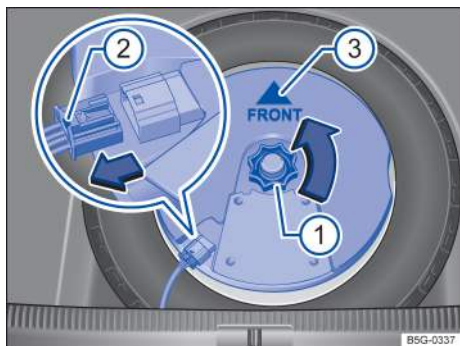

Fig. 140 Under the luggage compartment floor: Subwoofer (if equipped).
- Unscrew the handwheel → fig. 140 ① in a counterclockwise direction (arrow).
- To release the electrical connector, press and hold the center tab down with one hand ②.
- Reinstall the subwoofer carefully back into the recess. The tip of the arrow symbol "FRONT" on the subwoofer → fig. 140 ③ must point toward the front of the vehicle
- Insert the connector ② into the socket (in the opposite direction of the arrow) until it clicks into place.
- Turn the handwheel ① clockwise to secure the subwoofer.